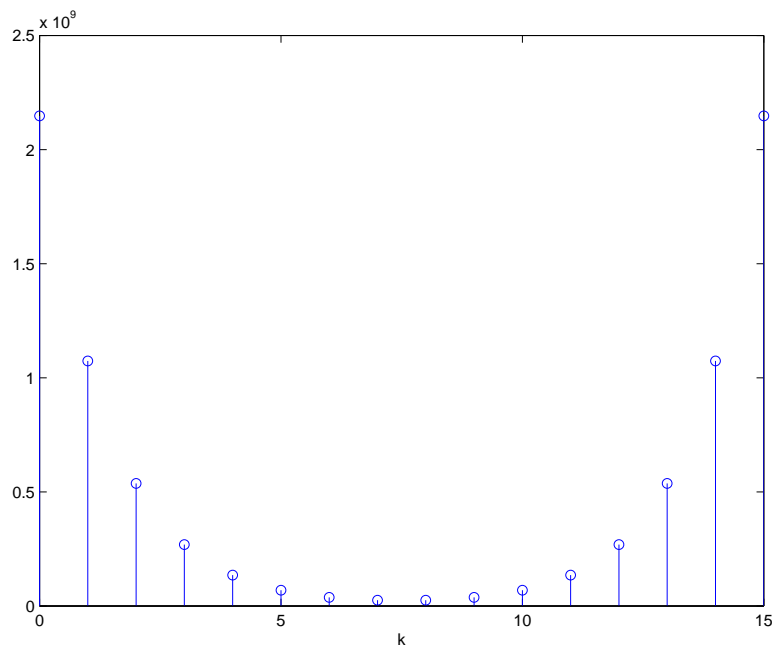

Figure 1: Total quantization error in product as a function of  $k$  for the example with  $M_x = 11$ ,  $M_y = 13$ ,  $N_x = N_y = N_z = 16$  and  $M_z = 9$ .
The easiest way to find this minimum is to just plot it in MATLAB for given values of  $N_x$ ,  $N_y$ , and  $P$  using the `stem` command. As an example, suppose  $M_x = 11$ ,  $M_y = 13$ , and  $N_x = N_y = N_z = 16$ . We know from the previous section that we should set  $M_z = 9$  to avoid overflow. This means that we must throw away  $P = M_x + M_y - M_z = 15$  fractional bits to avoid overflow. If we plot (19) for  $k = 0, \dots, 15$  with the `stem` command in MATLAB, we get the result shown in Figure 1. These results imply that  $P_x = 7$  or  $P_x = 8$  minimizes the error in the fixed-point product. Hence, either